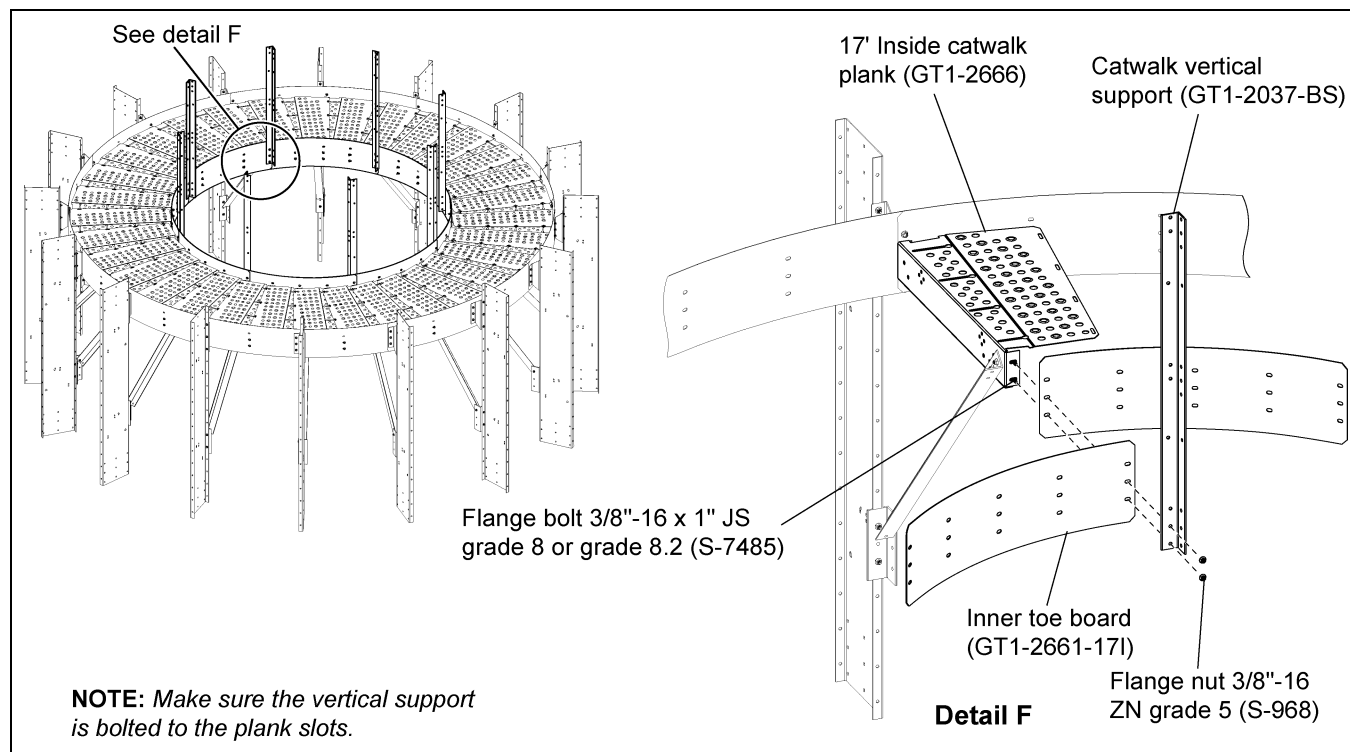

**Figure 5I**
1. Install the knee support (GT1-2039-BS) around the dryer between the catwalk support clips (GT1-2040-BS) and planks (GT1-2666) using 3/8"-16 x 1" JS grade 8 or grade 8.2 bolts (S-7485) and 3/8"-16 ZN grade 5 nuts (S-968). (See Figure 5I.)